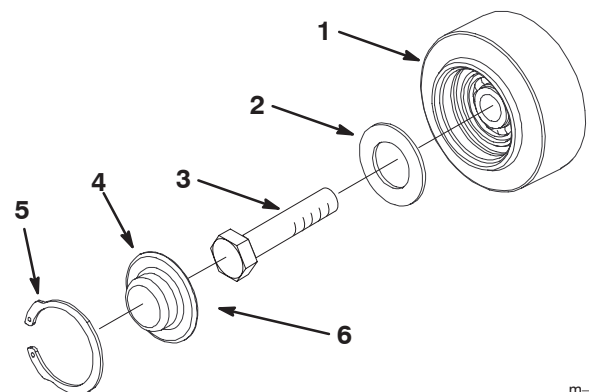

Figure 41
3. Remove the snap ring and cap from a road wheel (Fig 41).
4. Check the grease under the cap and around the gasket (Fig 41). If it is dirty, gritty, or depleted, clean out all of the grease, replace the gasket, and add new grease.
6. Place the greased road wheel cap over the bolt head (Fig 41).
7. Secure the road wheel cap with the snap ring (Fig 41).